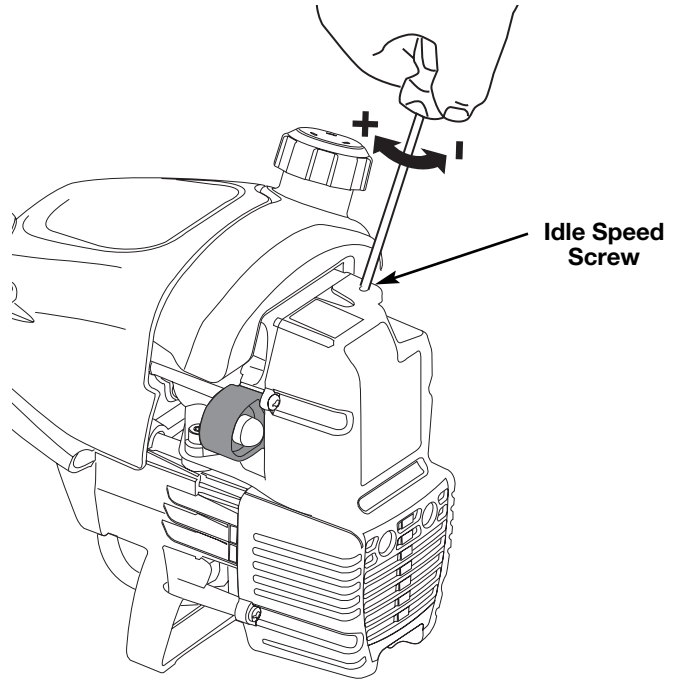

Fig. 27
The idle speed of the engine is adjustable through the air filter/muffler cover (Fig. 27).
2. Release the throttle trigger and let the engine idle. If the engine stops, insert a small phillips or flat blade screwdriver into the hole in the air filter/muffler cover (Fig. 27). Turn the idle speed screw in, **clockwise**, 1/8 of a turn at a time (as needed) until the engine idles smoothly.